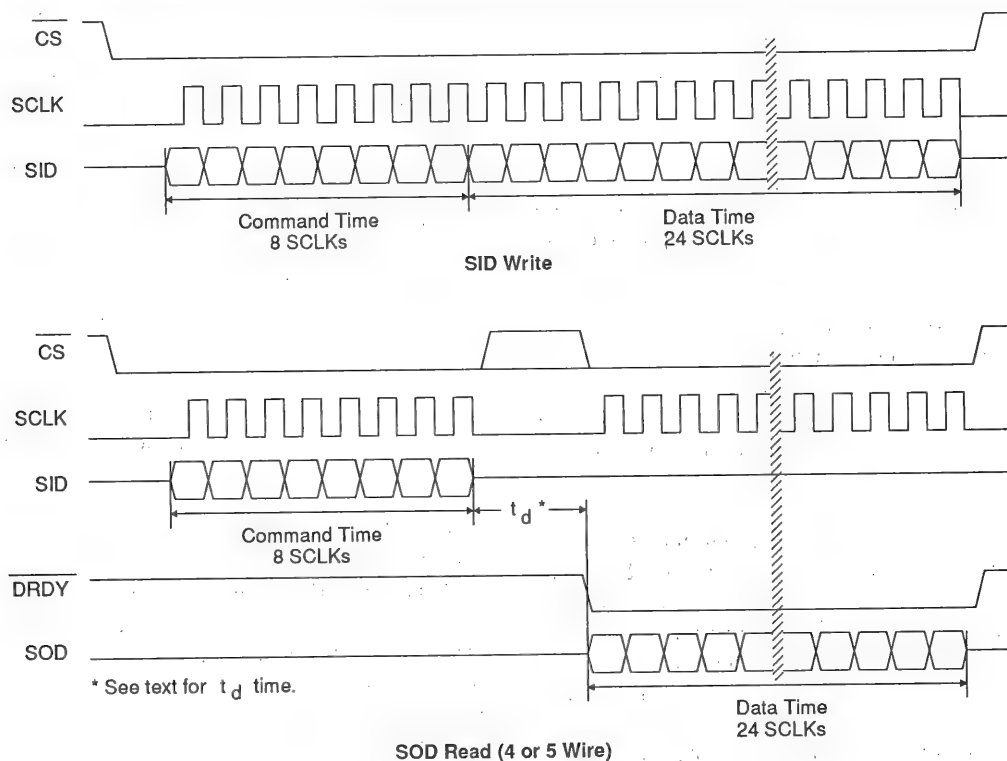

Figure 12. Command and Data Word Timing
Reading a register in the converter requires a command word to be written to the SID pin. For example, to read the conversion data register, the following command sequence should be performed. First, the command word 88(H) would be issued to the port. In the 5 wire interface mode, this would involve activating CS low, followed by 8 SCLKs (note that SCLK must always start low and transition from low to high to latch the transmit data, and then back low again) to input the 8-bit command word. CS must be low for the serial port to recognize SCLKs during a write or a read, but it is actually the first rising SCLK during command time that gives the user control over the port. After writing the command word, the user must pause and wait until the CS5520 presents the selected register data to the serial port. The DRDY signal will fall when the data is available. When reading the conversion data register, it may take up to 112,000 XIN clock cycles for DRDY to fall after the 88(H) command word is recognized. See Figure 12 for an illustration of command and data word timing.